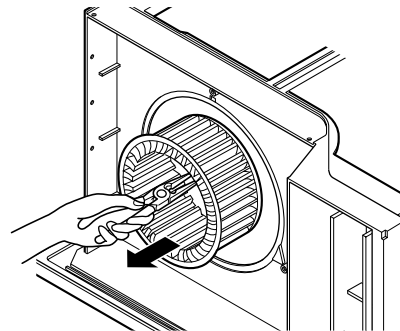

Figure 6
6. Pull the blower outward, without touching blades. (See Fig. 6)